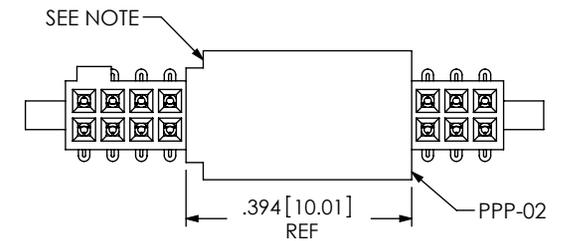

FIG 5
- P: PICK AND PLACE PAD (SEE FIG. 5, SHT 2)